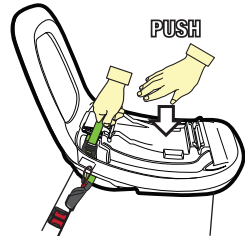

Figure 6
Step 6: Place the base in the seating position (refer Figure 6 & 7) and fully lengthen the flexible ISOFIX compatible Lower Anchorage Connectors (LAC).
Step 8: Push down on the Base (with knee or hand) whilst pulling the adjuster strap firmly. Remove all slack from the LAC straps by pulling the adjuster strap firmly. The **GREEN** indicator is activated (refer Figure 6). Repeat for both side of the Base.